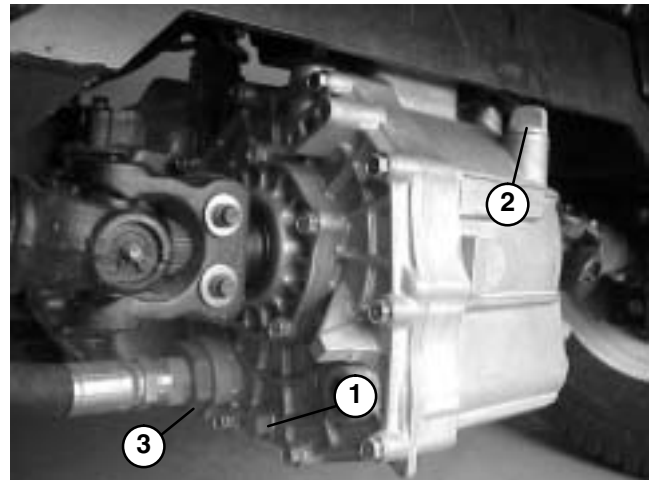

Figure 14
3. Remove drain plug from transaxle (Fig. 14) and drain transaxle into a suitable container.